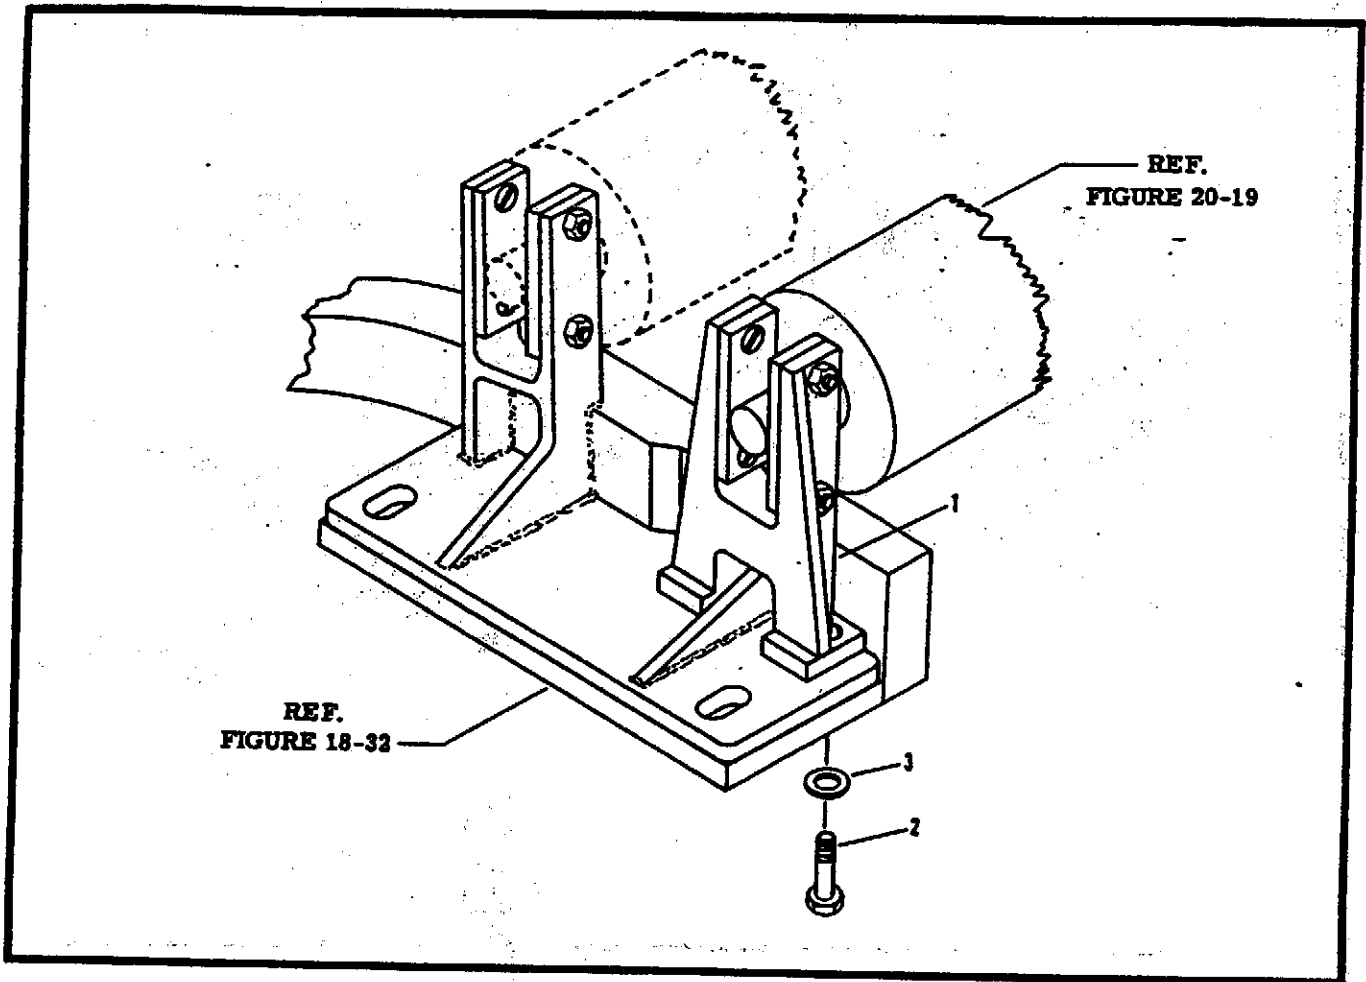

Figure 43. Doffer Roll Relocation
DOFFER ROLL RELOCATION. Refer to Figure 43. To install brackets for relocating the doffer roll when the Feedmaster spreader is used with the F.W.L., it is necessary to drill 2 holes at the RH and LH sides of the ribbon feed table. Place bracket at side of feed table 5 inches, center to center, forward of the installed doffer roll bracket and 1-1/16 inches outward from the edge of the feed table board. Scribe holes using the bracket as a template, and center punch. Drill 2 holes for 5/16-18-inch capscrews. Similarly drill holes for the other bracket. Install RH and LH brackets (1) on feed table in similar manner to the regularly installed doffer roll brackets. Place a 5/16-inch lockwasher (3) under the head of each 5/16-18-inch socket hex hd. capscrew (2). Install this capscrew assembly from bottom of feed table threading into the brackets. Using proper size Allen wrench, tighten as required.